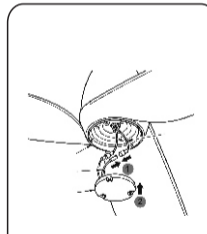

Fig.23
Step 4: Connect the wires between the fan and LED assembly with the connectors.(Fig. 23)